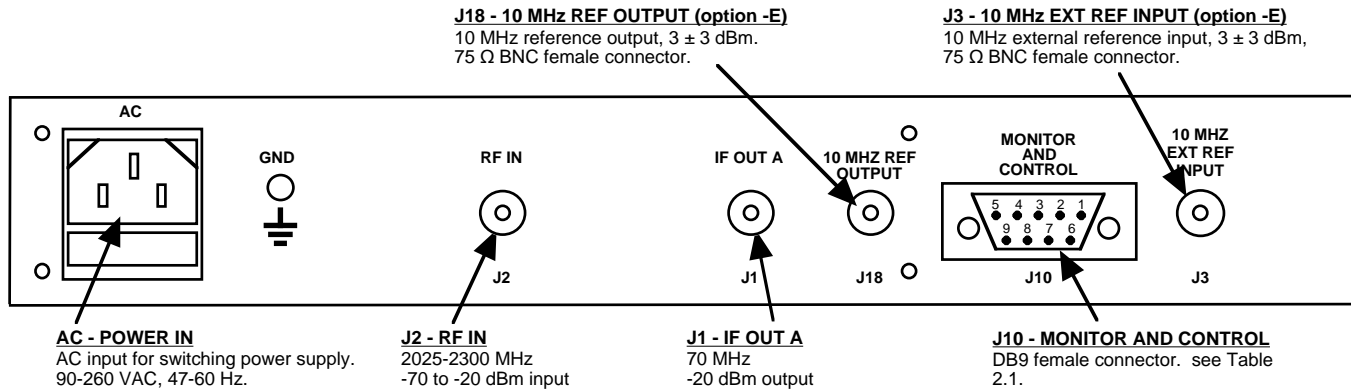

FIGURE 2.2 2016-125 Downconverter Rear Panel Inputs/Outputs
2.2 Rear Panel Input/Output Signals - Figure 2.2 shows the input and output connectors on the rear panel.
1. Connect a -70 dBm to -20 dBm signal to RF In, J2 (Figure 2.2)
Alarm indications appear on the LEDs (see figure 2.2).